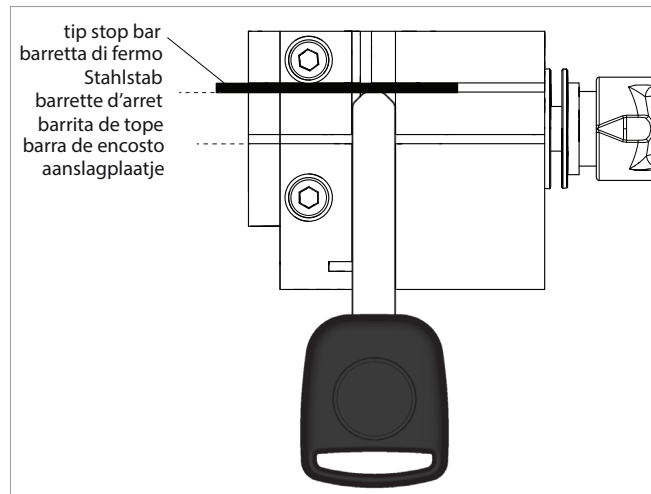

Fig. 24
- 2) Place the original key into the left-hand clamp of the machine making sure that the key tip is pressed against the stop bar (Fig. 24) and lock it.